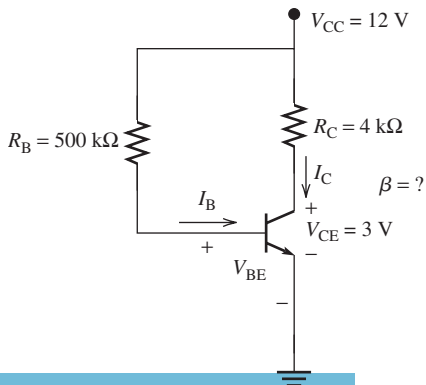

FIGURE P8.37 A simple transistor circuit.
- 8.37 (H)* Assume that the voltage across a transistor's collector and emitter has been measured at 3 V, as shown in Figure P8.37. Other parameters are also given in Figure P8.37. Calculate the current gain, β .